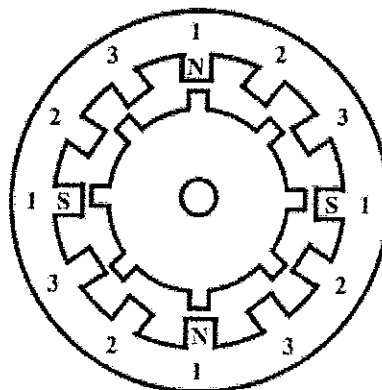

Figure Q6
- a) Single stack three phase variable reluctance stepper motor is illustrated in Figure Q6. Number of rotor teeth (n_r)=8 and number of stator teeth (n_s)=12. If the switching sequence of the phase winding is **1-3-2-1** determine;